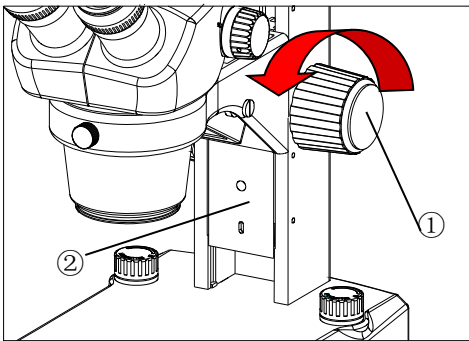
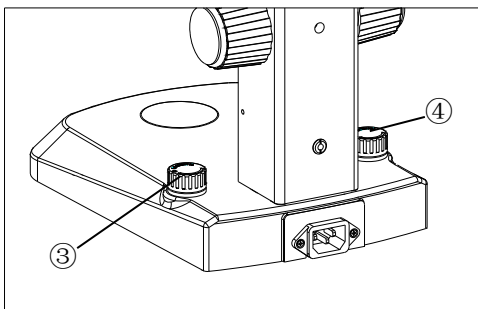

Fig. 9
Fig. 10
3.2.1 Adjusting the rotation tension of the focus adjustment knob (Fig.9, Fig.10)